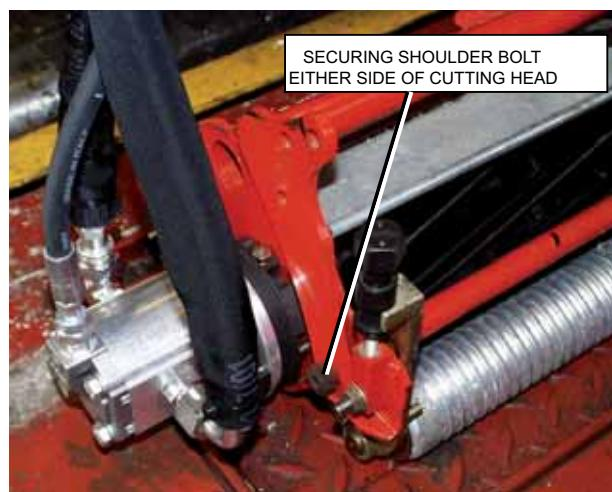

Fig.8.2.2
3. Align the cutting head at the front of the yoke frame. Secure cutting head to either side of the yoke frame using the shoulder bolt on each side of the cutting head. (See Fig 8.2.2)